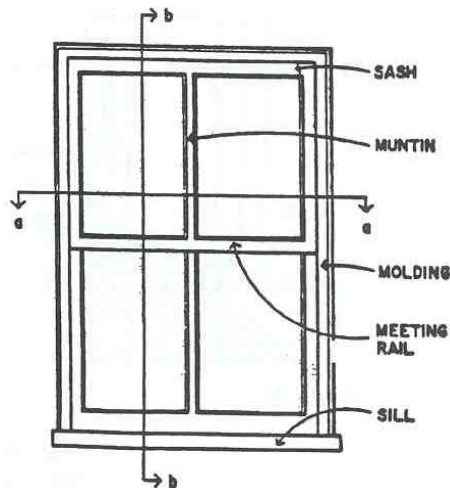

Figure 1
3. **Drawings or measured photos** illustrating dimensions and profile of components of all types of existing windows, including the head, jamb, sill, and muntins (see figure 1)**